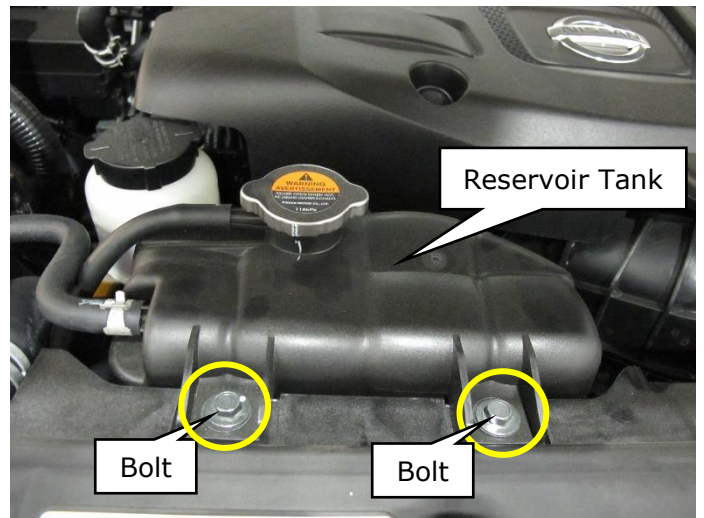

Figure 3
2. Remove (2) 10 mm reservoir tank bolts, refer to Figure 3.